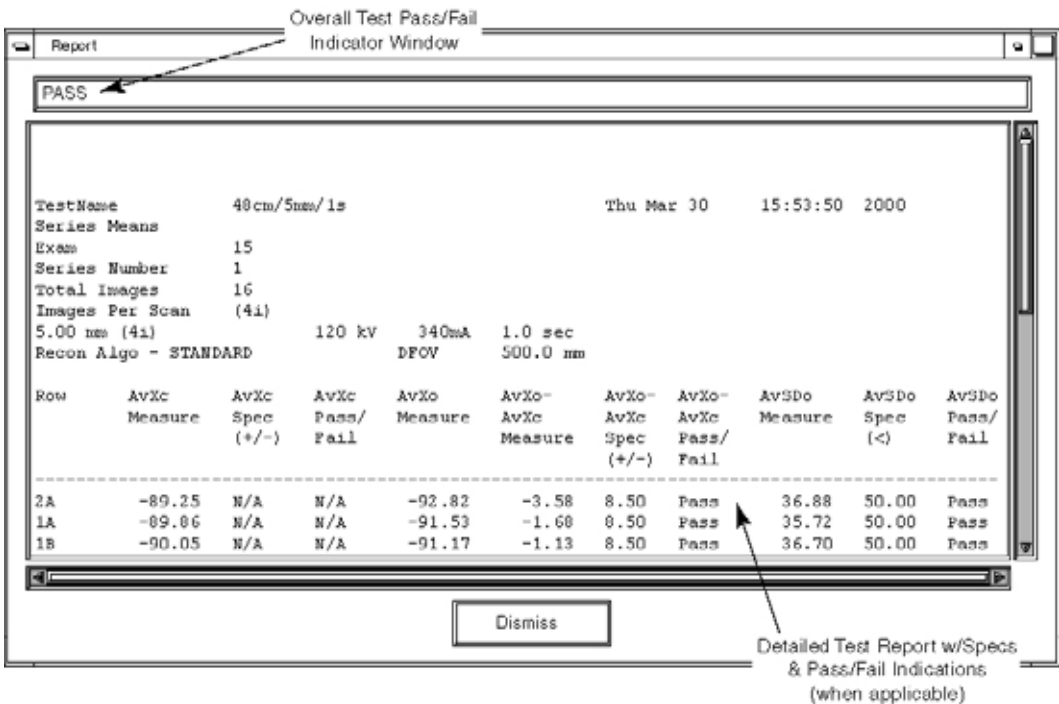

Figure 3-3 Image Analysis Tool User Interface - Test Results Report Window
a.) Verify the Overall Test Pass/Fail Indicator Window of the Report display indicates PASS. (See Figure 3-3, on page 63 \(Pro 16\) or Table 3-4 \(LS 16, Ultra, Plus\).)